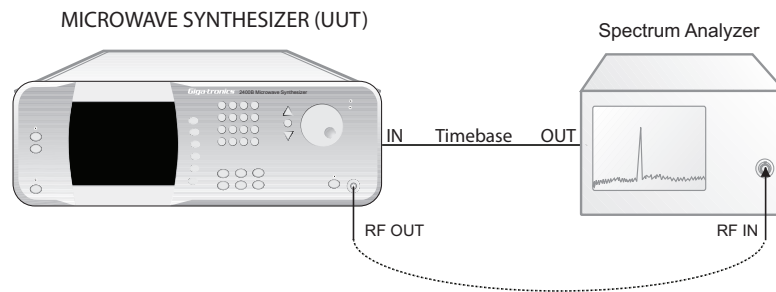

Figure 4-2: Spectral Purity Tests
1. Connect the equipment as shown in Figure 4-2. Allow the equipment to warm up for at least 30 minutes. Set the 2400 to the first test frequency listed in Datasheet 2, and set the RF amplitude to +6 dBm.